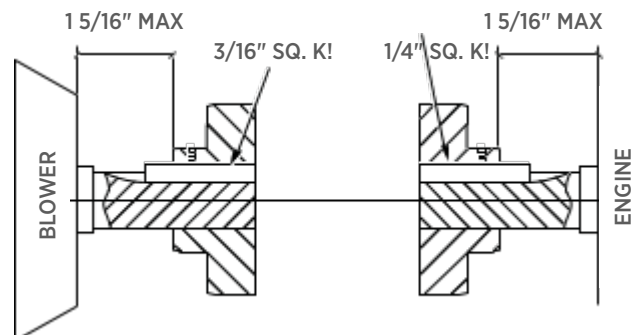

FIGURE 37: COUPLING ASSEMBLY SCHEMATIC
6. Slide the engine coupling and 1/4" key onto the engine drive shaft. Position the engine coupling 1-5/16" from the engine. *See Figure 37.*
8. Slide the blower coupling and 3/16" key onto the blower drive shaft. Position the blower coupling 1-5/16" from the blower. *See Figure 37.*